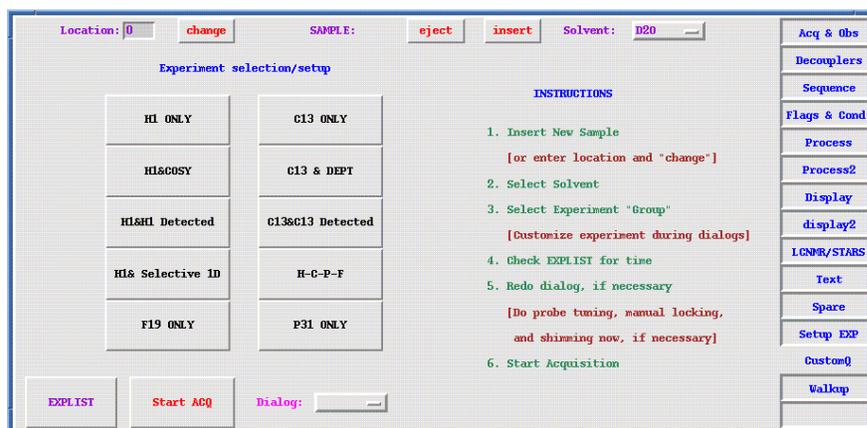
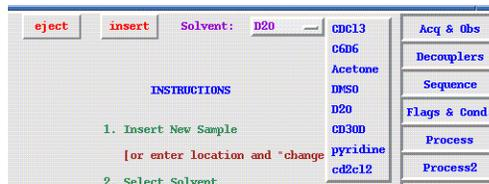

Figure 38. CustomQ Window
Figure 39. CustomQ - Changing Samples
2. Click on the **Eject** and **Insert** buttons (Figure 38) in the sample management region of the **CustomQ** window (Figure 39) or, from the command line, use the `e` command to eject the sample and the `i` command to insert a new sample.
3. Select the solvent in the sample management region of the window (Figure 38) by holding down the left mouse button on the solvent menu (Figure 39) and choosing the appropriate solvent from the solvent menu list.